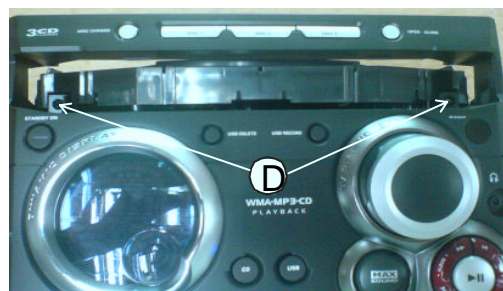

Figure5 (D1—D4)
- Power On ,Open the door and remove the DVD DOOR from the LOADER as shown in figure5